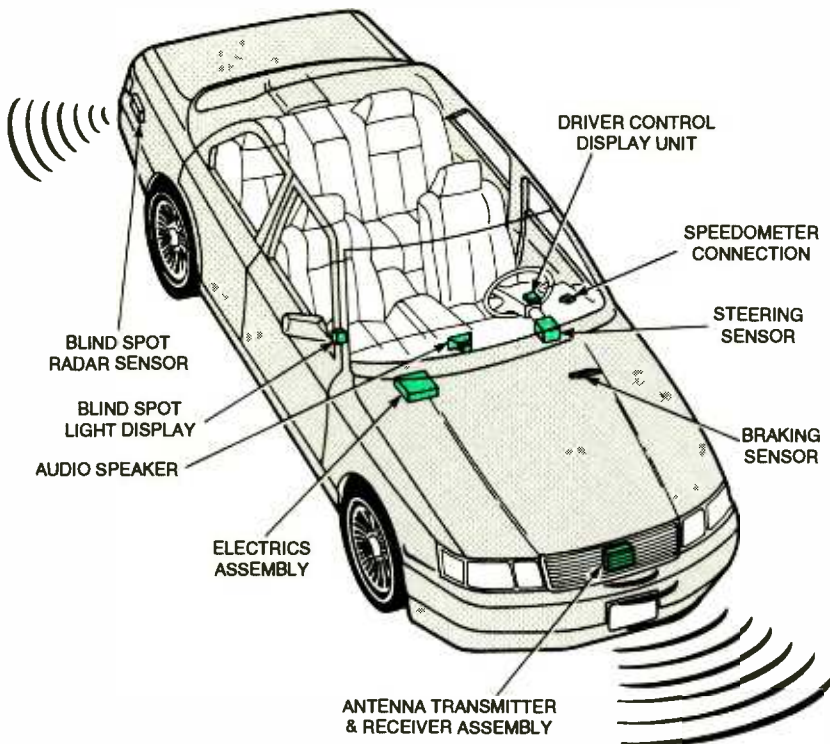

Fig. 5. Once VORAD equipment is installed in an automobile, it provides both forward, and blind-spot detection.
**Generator Housing.** The generator housing (see Fig. 5) was fabricated from a 4½-inch length of 1½-inch diameter PVC pipe, a ½-inch length of electrical conduit, a 1- × 3- × ¼-inch strap, and two 1½-inch PVC end caps.
First, the 1½-inch PVC pipe was cut to length and a ½-inch hole was drilled through one wall at the center of the pipe (see Fig. 5). Next the ½-inch electrical conduit was brazed to the 1- × 3 × ¼-inch strap (as shown) to form the shaft and mounting plate. The shaft was then clamped to the housing so that the hole in the wall of the housing matched the internal diameter of the conduit. That joint was then coated with epoxy putty so that a smooth ½- to ¾-inch radius fillet was established between the shaft and the housing. Next the top end cap was drilled and then cemented to the housing with PVC cement. The generator was then mounted to the top cap. The mounting screws were coated with Elmers "Stix All" cement before installation. After mounting, the recessed counter bores were filled with "Stix All" for waterproofing.
The VORAD Vehicle Collision Warning System for cars, buses, and heavy-duty trucks (see Fig. 5) is offered by Eaton VORAD Technologies. VORAD, which stands for Vehicular On-Board Radar, uses a low-power (about 20 watts for the entire system) microwave radar to simultaneously track up to 20 moving or stationary objects. The signals are relayed to the system's central processor, which continually